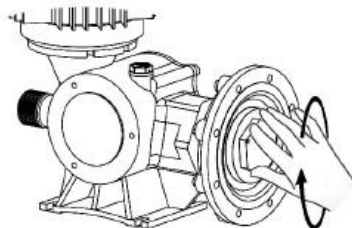

Figure 10
- ◆ Clean the transition section, apply grease to the push rod, protect the metal parts from corrosion, and tighten the new diaphragm assembly clockwise (See figure 10).